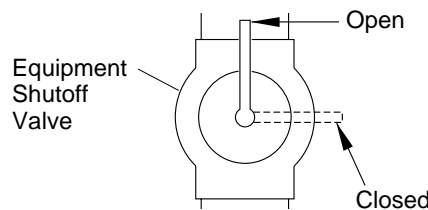

Figure 19 - Equipment Shutoff Valve
1. Close equipment shutoff valve (see Figure 19).
1. Open equipment shutoff valve (see Figure 19).